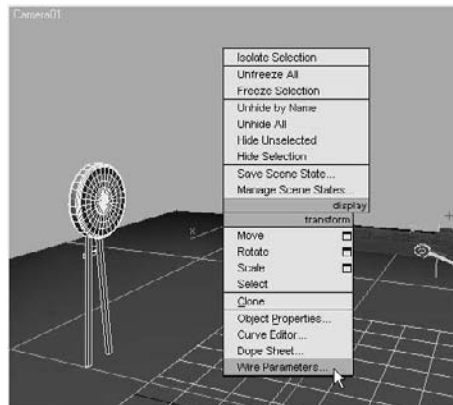

Figure 12.25
2. Select the Super Spray Bullets particle system. Right-click in the viewport and choose Wire Parameters from the Quad menu. See Figure 12.25.